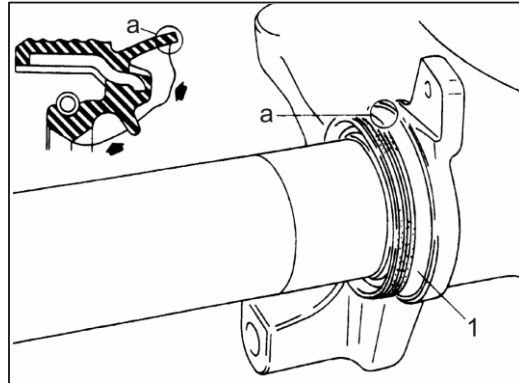

Figure 4-30 Install Oil Seal
(1) Clean both sides of oil seal seat, pour TOTAL MULTIS plate (special service tool) grease into the three edges of new oil seal, place the new oil seal on oil seal seat, ensure exterior edge a face one side of rocker arm, so that it can be integrated with oil seal seat, as shown in Figure 4-30.